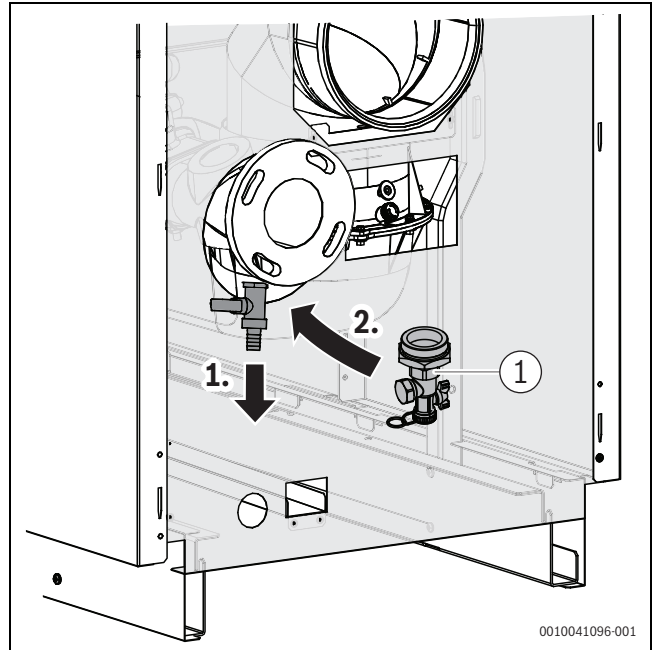

Fig. 27 Disassembly drain valve (shown: right-hand version)
- ▶ Remove the drain valve mounted on the return (→Fig. 27)